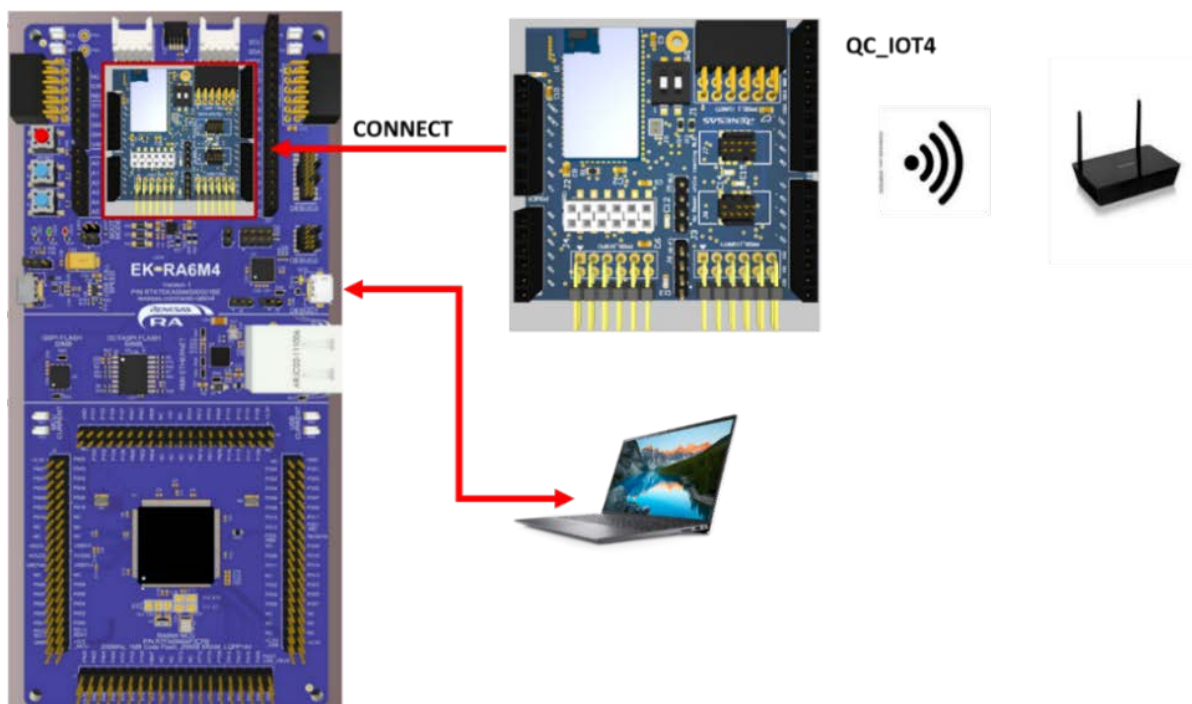

Figure 3. Evaluation Kit Connections with RA6M4 EVK
4. Connect the QC-IOT4 board to the MCU board (see Figure 3).
Use the following procedures to set up the kit connections with RA6M4 EVK as shown in Figure 3.
2. Connect the QC_IOT4-DA16600POCZ board with MCU as shown in Figure 3.
4. Connect the USB debug port of RA6M4 to the PC as shown in Figure 3.